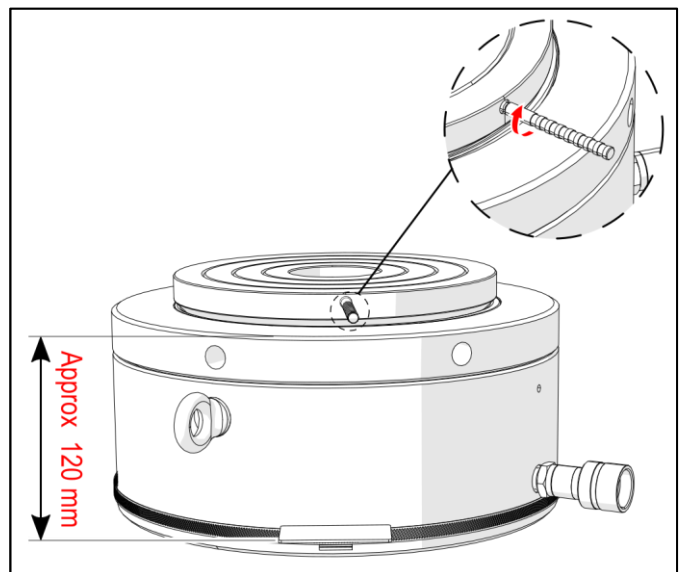

Figure 5.3: Mounting Kit Saddle Bar Installation & approx. Base Plate Position
- Fasten the Mounting Kit Band (28) to the cylinder body so that the top of the base plate (29) sits approx. 120mm below the top face of the cylinder body (See figure 5.3). This should position the displacement sensor the correct distance below the saddle bar, to achieve the minimum sensor cable extension required for the control unit to register the sensor. (See step 5)
- Fasten the saddle bar into the threaded hole on the mounting saddle. (See Figure 5.3)